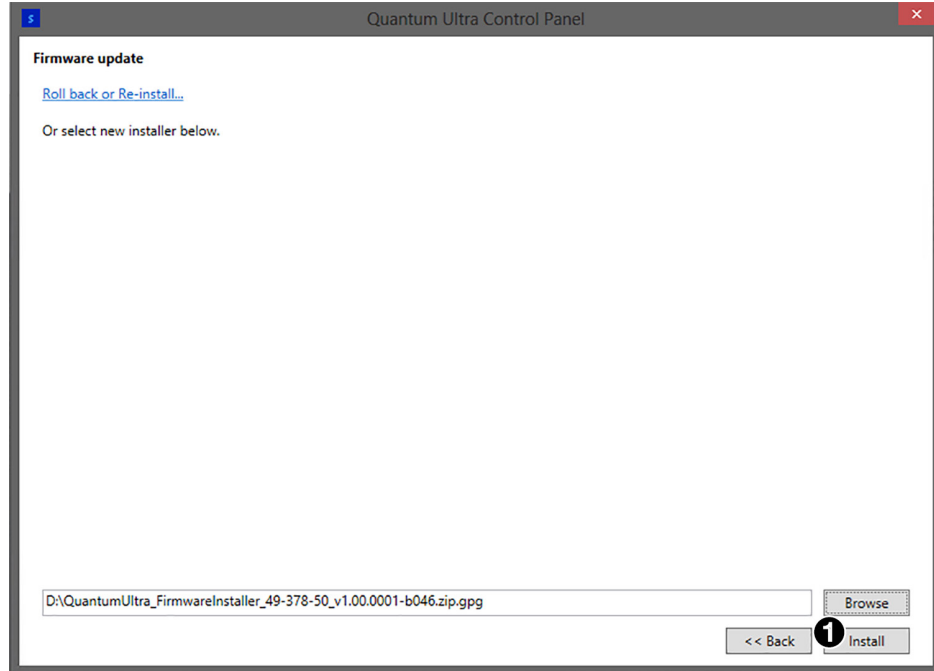

Figure 57. Click Install on the Firmware Update Screen
9. On the **Firmware update** screen, click **Install** (see figure 57, ❶). The unit may restart to disable write protection before proceeding with the next step.